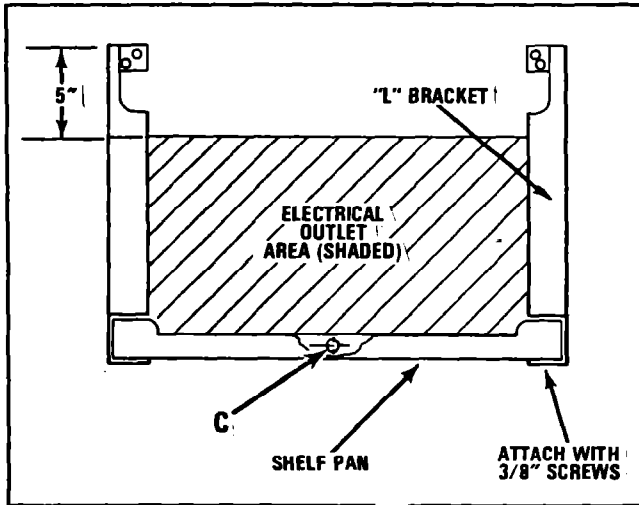

FIGURE 7
The shaded area of *Figure 7* shows the acceptable electrical outlet location area.
9. Assemble the left and right-hand "L" brackets to the shelf pan. The shelf pan goes inside of the "U" channel of the "L" brackets. Attach, using six 3/8" sheet metal screws on underside of "L" brackets. See Figure 7.
11. Mark hole "C." See Figure 7. Remove shelf assembly from wall bracket by removing the two sheet metal screws installed in Step 10. See Figures 7 and 8.
15. Tighten the toggle bolt or install the lag screw in the hole in the shelf pan flange. See Figure 7.